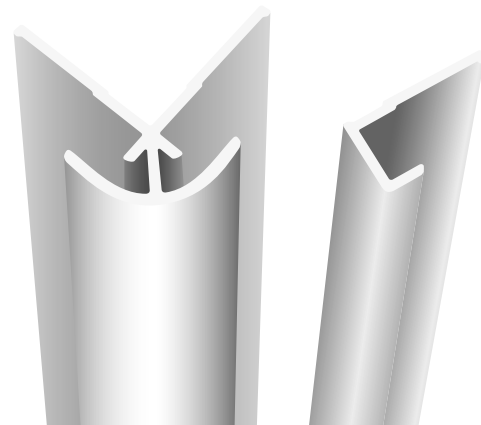

Figure 21: Lustrolite Aluminum Edge Protection Profile Types (Blue and White)
- For RBC projects, color matching aluminum profiles will often be specified to protect panel edges (Figure 21)